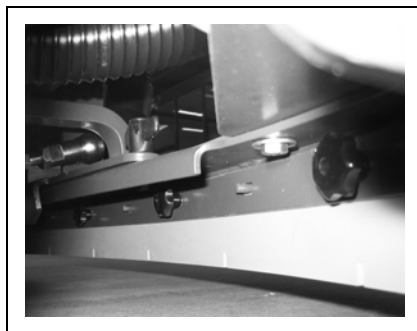

Fig. 33
The squeegee is also equipped with front sealing and support strips and clamping rail (Fig. 33).
6. Disassemble the front sealing strip (Fig. 33) in the same way.